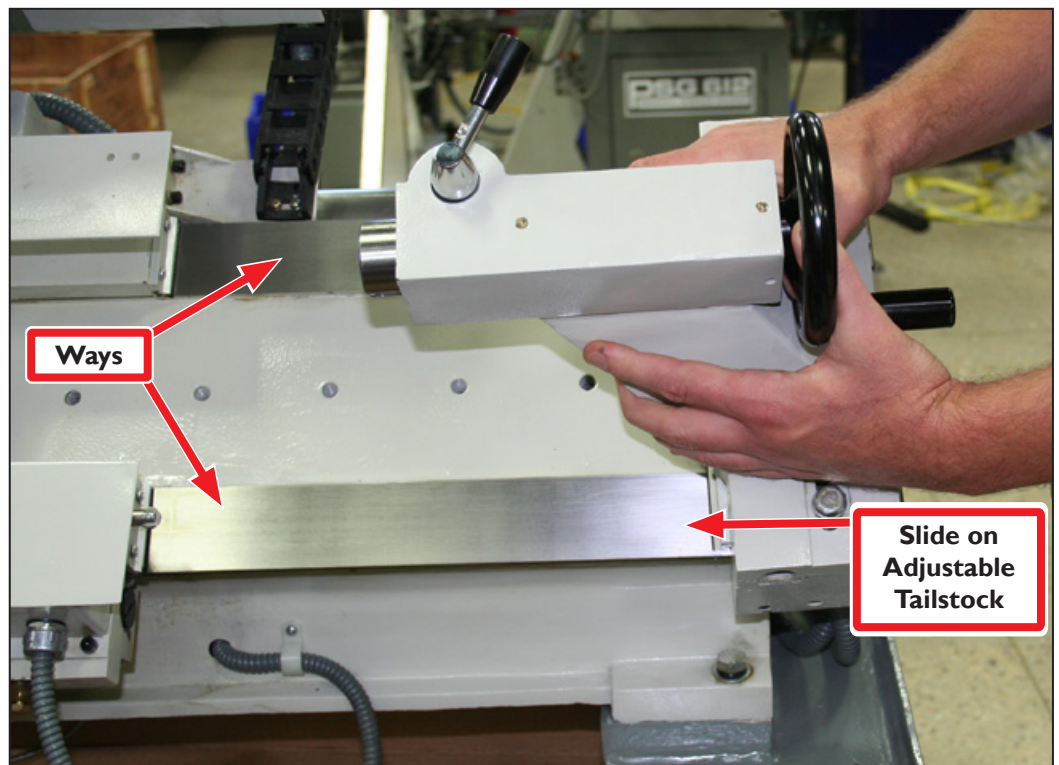

Figure 4
4. Inspect ways for debris or lubricant buildup; wipe clean (see **Figure 4**).
5. Install tailstock by matching up dovetail with lathe; slide onto lathe (see **Figure 4**).